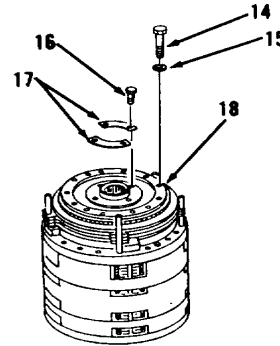
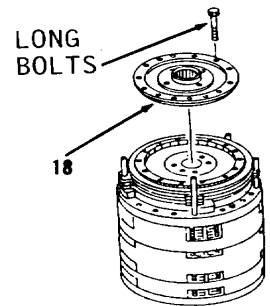
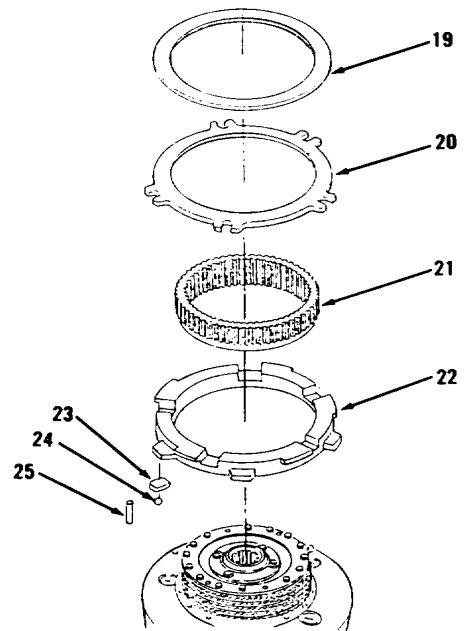
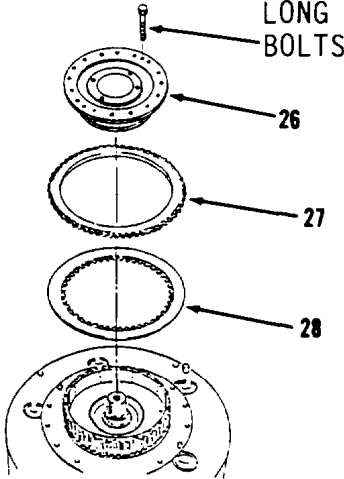

Figure 14-43.
Figure 14-44.
Figure 14-45.
Figure 14-46.
7. Remove 14 bolts (14) and washers (15) from hub (18, Figure 14-43).
8. Bend two lock tabs (17) away from four bolts (16) and remove four bolts (16) and two lock tabs (17).
9. Insert two long bolts into outer threaded holes of hub (18) to aid in removal of hub (18, Figure 14-44).
10. Remove hub (18) and long bolts.
11. Remove four discs (19) and three plates (20), gear (21) and piston (22, Figure 14-45).
12. Remove five inserts (23) and balls (24).
13. Remove four aligning pins (25).
- 14. Insert two long bolts into hub (37, Figure 14-45) to aid in removal and remove hub (26), five discs (27) and four plates (28, Figure 14-46).